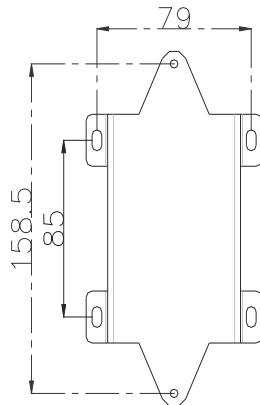

Figure 4: Mounting Bracket
3. Fix the mounting bracket to the wall using four ST4x30 screw. Refer to Figure 4.